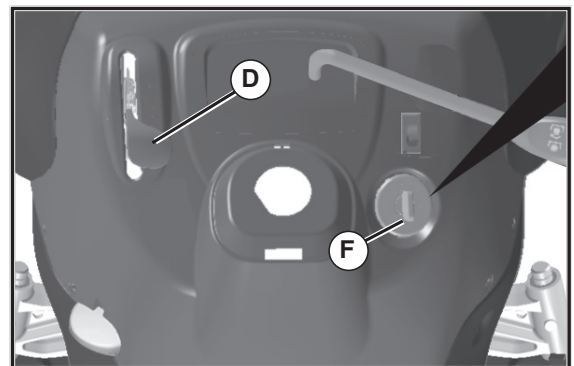

FIG. 8
TO USE THROTTLE CONTROL (D) (See Fig. 8)